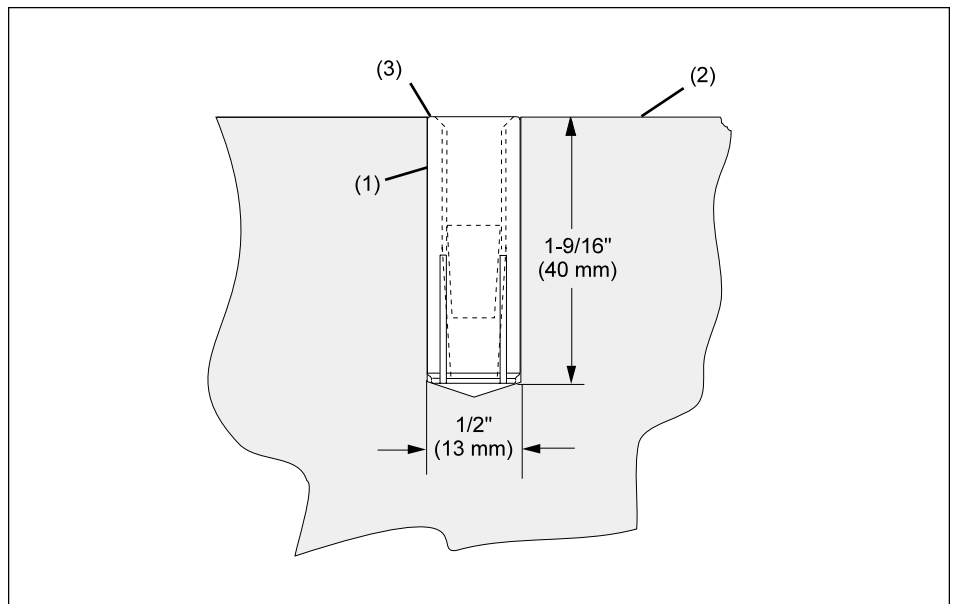

Figure 1. Drill Hole for Concrete Fastener
2. Drill a 1/2" (13 mm) hole 1-5/8" (41 mm) deep at the attaching hole locations marked on the floor. Refer to *Figure 1*.